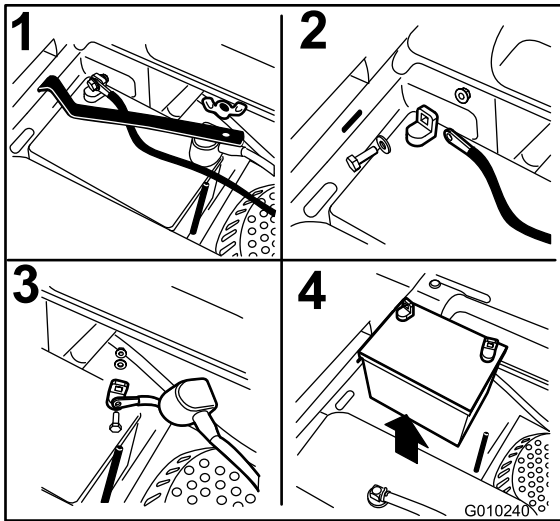

Figure 44
3. Remove the wing nut securing the battery clamp (Figure 44).
4. First disconnect the negative battery cable (black) from the negative (-) (black) battery terminal (Figure 44).
5. Slide the red terminal boot off the positive (red) battery terminal and remove the positive (+)(red) battery cable (Figure 44).
6. Remove the clamp (Figure 44).
1. Position battery in the tray with the terminal posts opposite from the hydraulic tank (Figure 44).
4. Secure the cables with 2 bolts, 2 washers, and 2 locknuts (Figure 44).
6. Install the clamp and secure it with the wing nut (Figure 44).